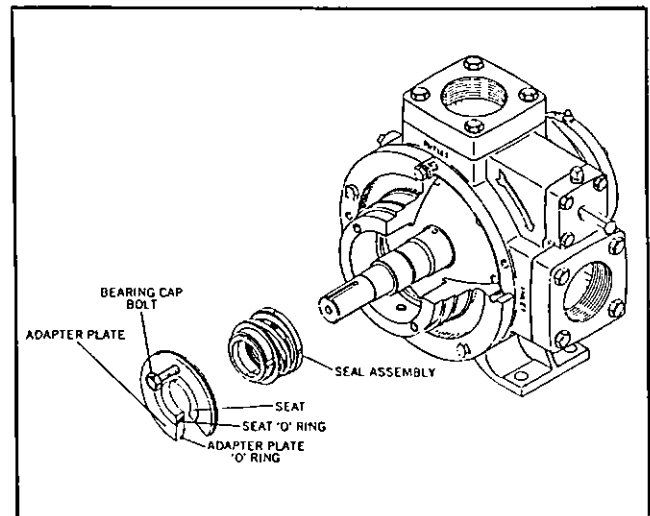

FIGURE 9
7. The adapter plate can be removed using a bearing cap bolt as a puller. (See Figure 9)